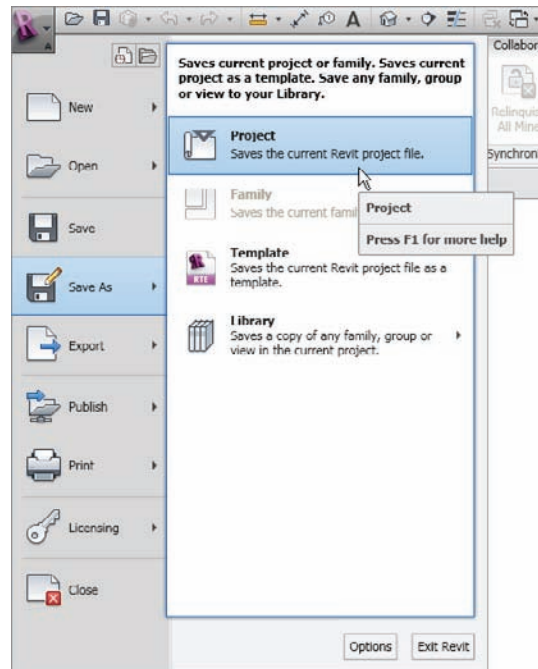

FIGURE 22.5 Saving the project using Save As
1. Click the Application button, and choose Save As > Project, as shown in Figure 22.5.